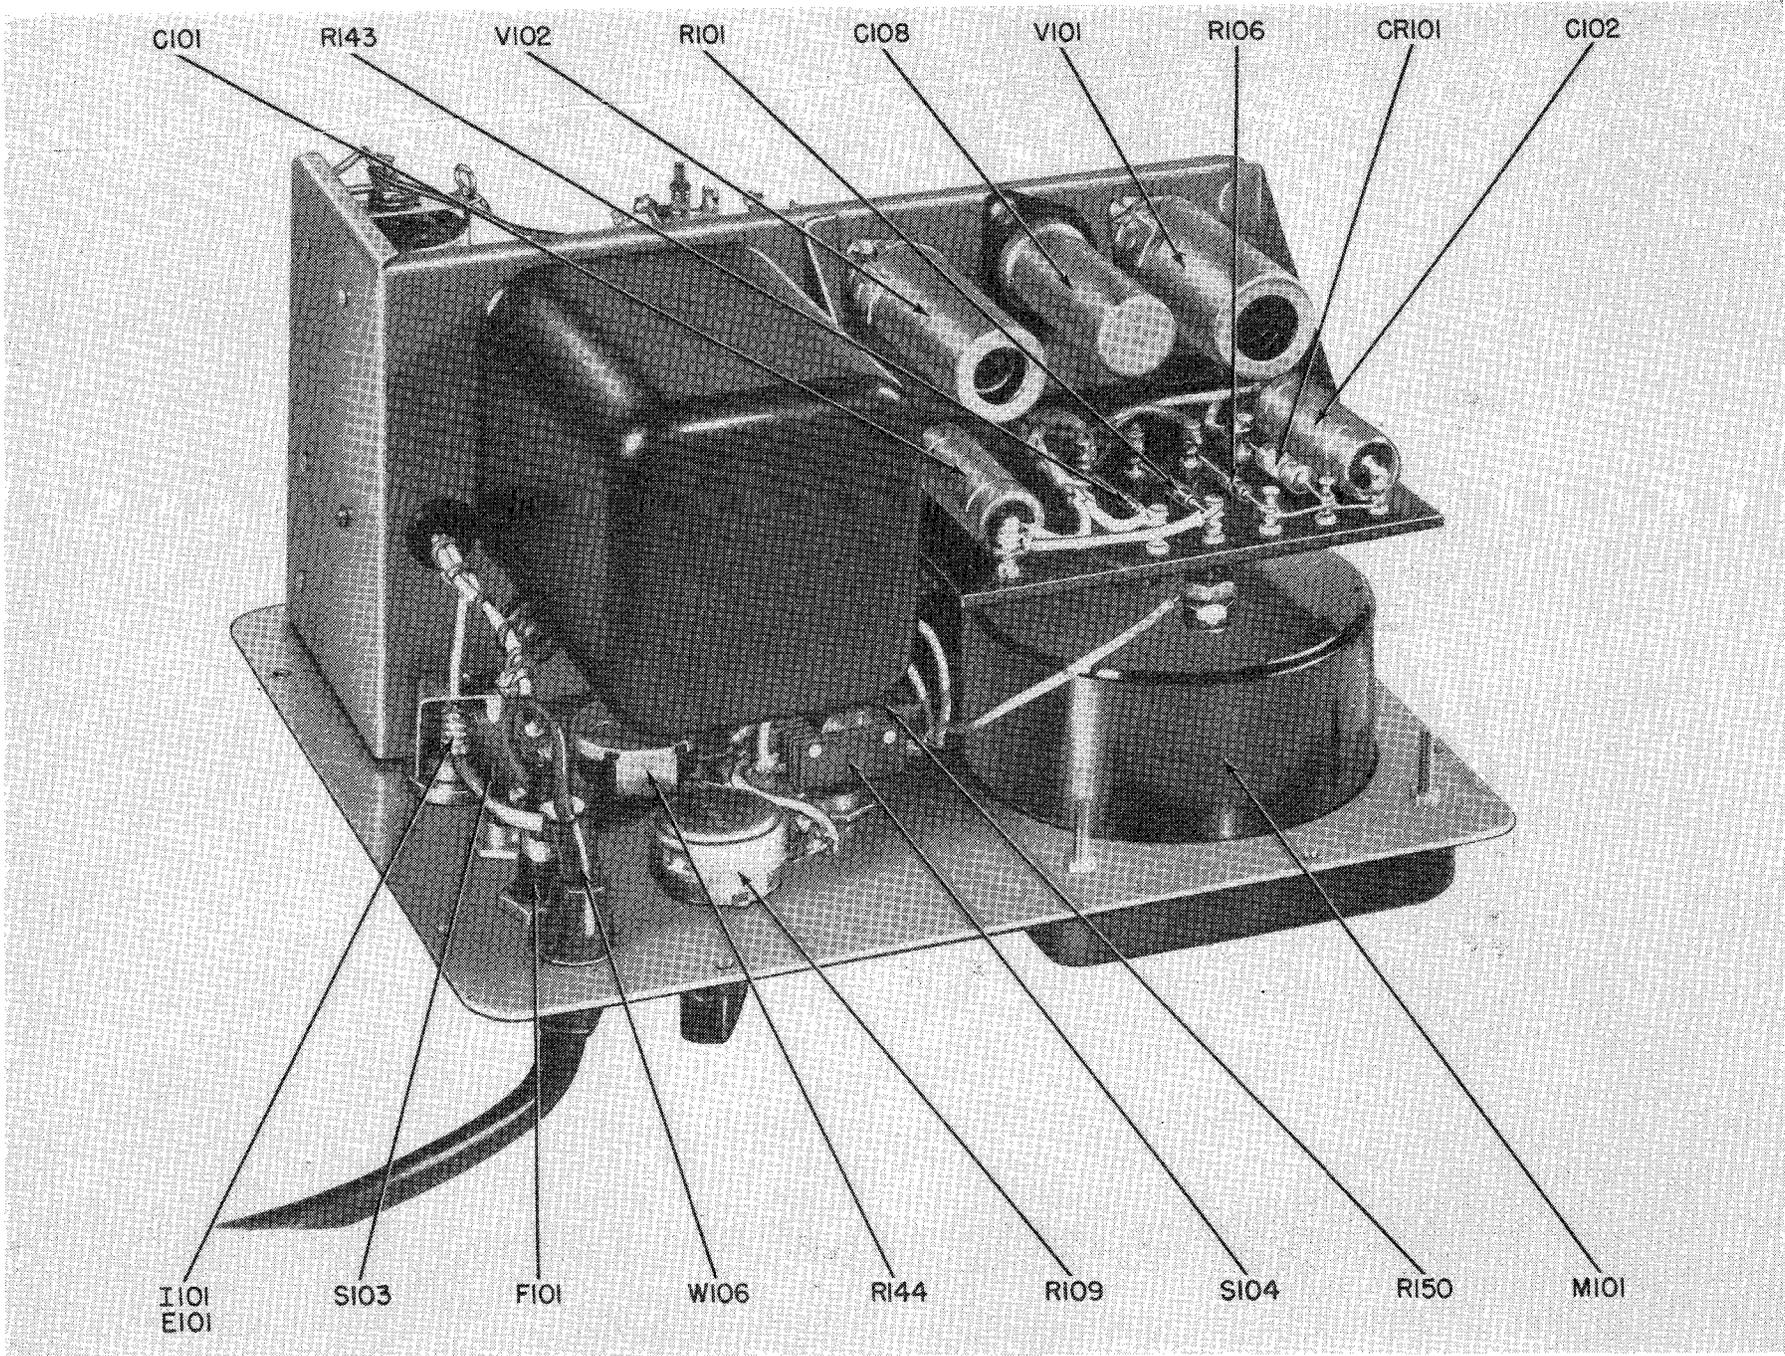

Figure 6-3. Multimeter ME-25A/U, Case Removed, Top View
- Figures 6-3 through 6-9 are internal views of the unit showing the location of tubes and component parts.
- b. Replace any tubes not functioning properly. The location of these tubes is shown in Figures 6-3 and 6-6. Any good tube of the same type as that employed may be used for replacement, but replacement of V101 may necessitate calibration control adjustments.
- (1) Adjust the meter needle to zero with the ZERO ADJUST control R109, Figures 6-3 and 6-6. No external voltage should be applied for this adjustment.
- (2) Operate the SELECTOR switch to the AC VOLTS position.
- (3) Turn the RANGE switch to any position. The range selected for the adjustment of calibration resistors is not important as long as a satisfactory
- (1) Set the SELECTOR switch to DC VOLTS.
- (2) Set the RANGE switch to the range corresponding to the known DC voltage about to be applied.
- (3) Apply a known DC voltage. If the meter does not indicate the proper voltage, adjust potentiometer R145 (See Fig. 6-3 and 6-6) until the meter indicates the applied voltage. This calibration corrects for either +DC or -DC.